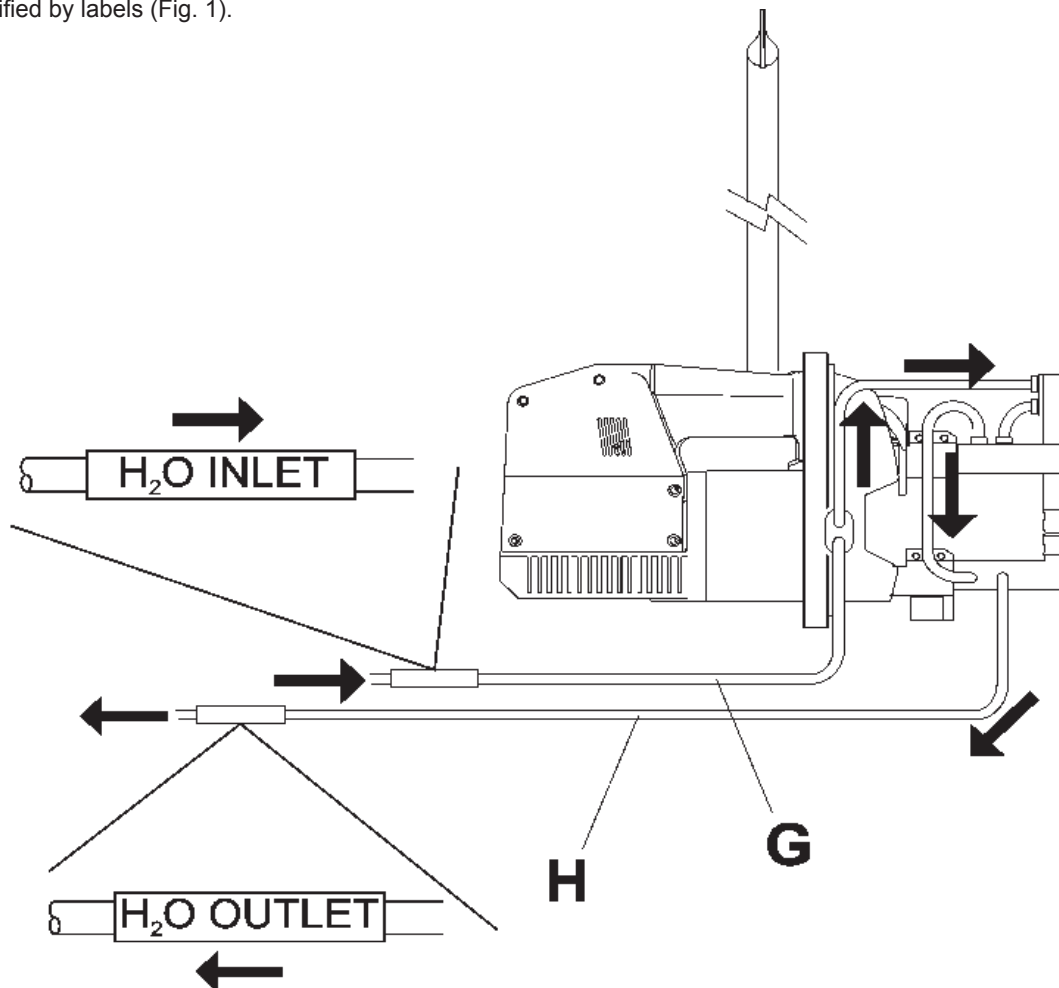

Fig. 1
For a correct cooling of the welder it is necessary 150 l/h clean water at a maximum temperature of 30°C. When connecting the unit to the water line check for dirt or packing scraps in the hoses and connect the supply to the INLET H2O hose (G), this to allow that still cool water immediately reaches the parts of the welder most subject to heating. The lukewarm water cooling the welder gets out from the OUTLET H2O hose (H). The water inlet and outlet hoses are identified by labels (Fig. 1).